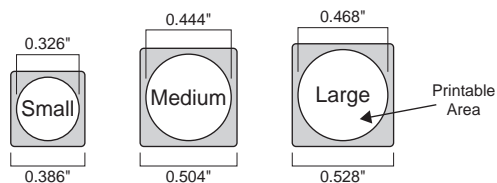

Figure 3.17 Control Panel Button Insert Film Sizes
- All inserts must be cut the dimensions indicated (**Figure 3.17**).
- The text on the insert film should fit within the white area in the center of the film (**Figure 3.17**) to be visible through the cap.